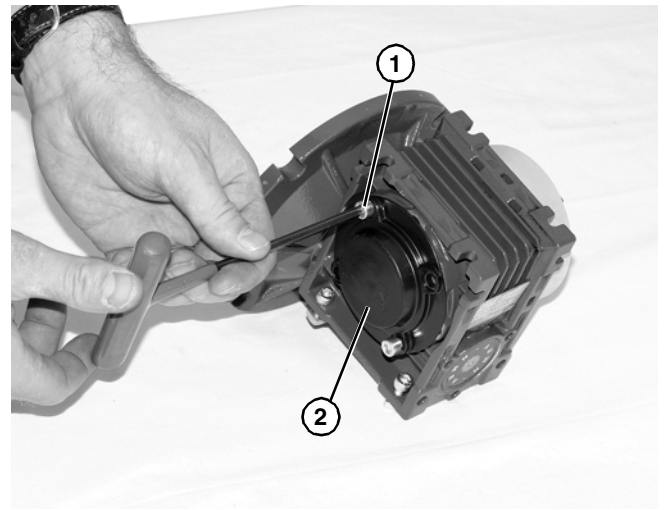

Figure 20
- Remove two (2) screws (**Figure 20, item 1**) and detach output shaft cover (**Figure 20, item 2**).